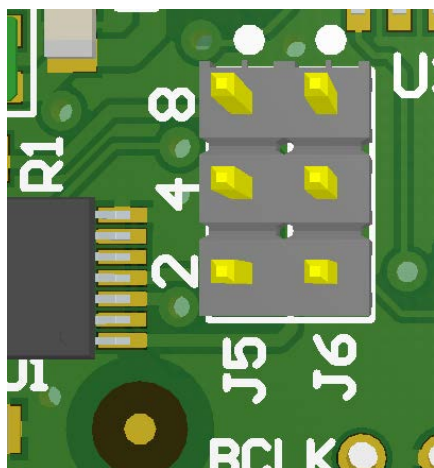

Figure 9 BCLK frequency/TDM size select jumper
A jumper (Figure 9) can be set on the AB0110 to select TDM8, TDM4 (6.144 MHz BCLK), or TDM2 (3.072 MHz) operation.
- o The default configuration is for TDM2 mode for I²S operation. If a different mode is needed change the BCLK select jumper to TDM4 or TDM8 as shown in Figure 9